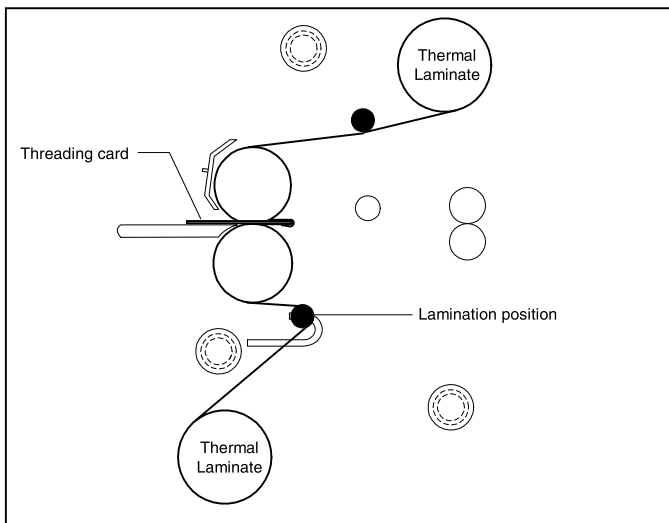

Fig. 27
8. Pivot the table back to its feeding position while ensuring the threading card is on top of the feed table (Figure 27).